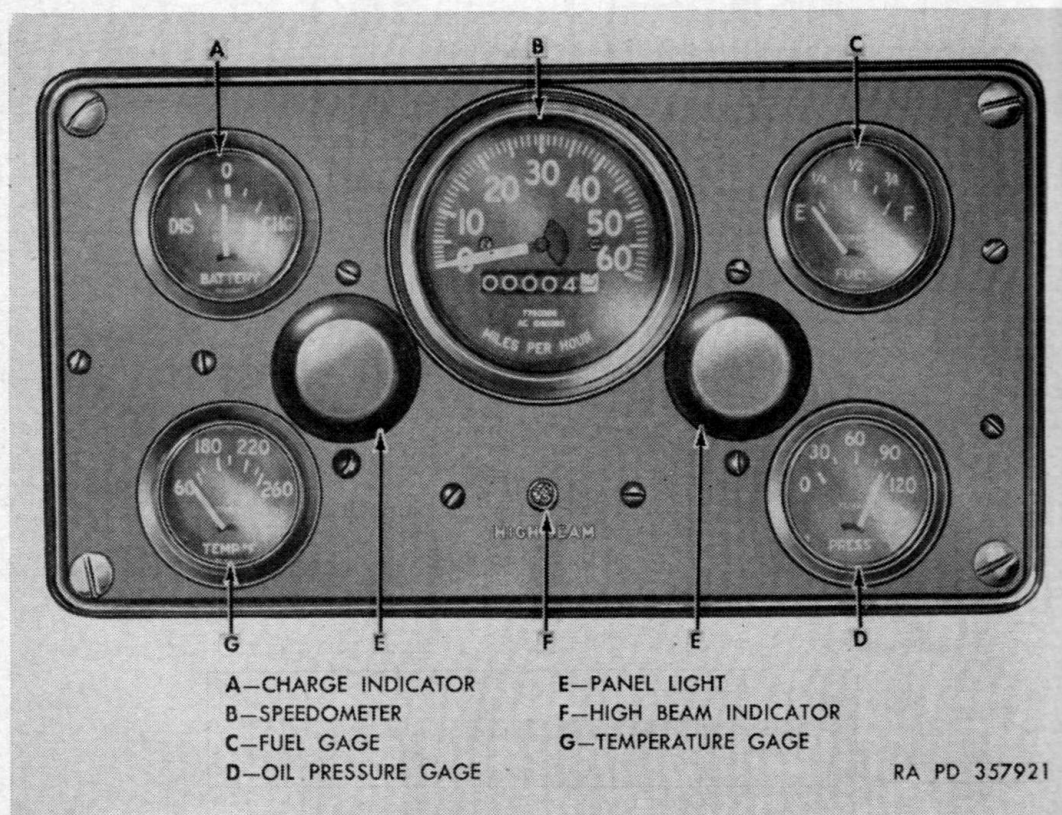

Figure 70. Instrument cluster—front view.
#### a. GAGES (figs. 70 and 71).
*a. REMOVAL.* Instrument cluster (fig. 70) is held in position in instrument panel by four panel lock screws located in each corner. Release these screws by turning counterclockwise one-half turn and pull instrument cluster out of instrument panel.